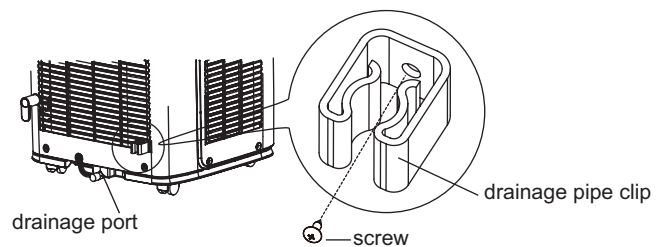

Fig.3
- (1) Fix the drainage pipe clip on the right of rear side plate near drainage port with a screw.(As show in Fig.3)